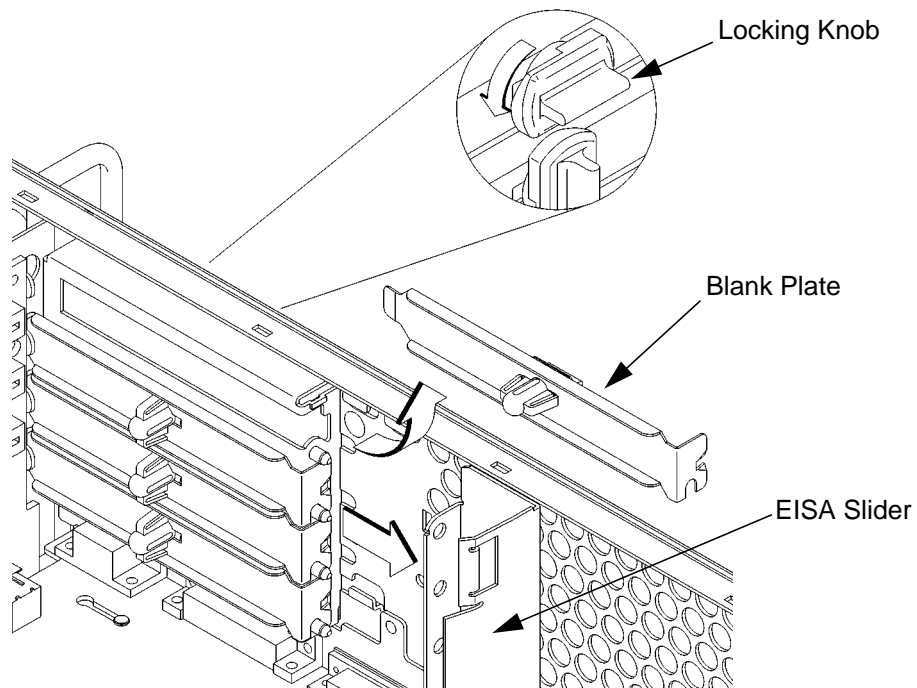

Figure 42 **Removing the EISA Slider and Blank Plate**
- 4 Remove the EISA Slider, as shown in Figure 42.
- 5 In the desired EISA slot, turn the blank plate's locking knob counter-clockwise to unlock the plate, as shown in Figure 42.
- 6 Remove the blank plate from the slot, as shown in Figure 42.
- 3 Lift the clip and slip the battery out of its holder, as shown in Figure 42.